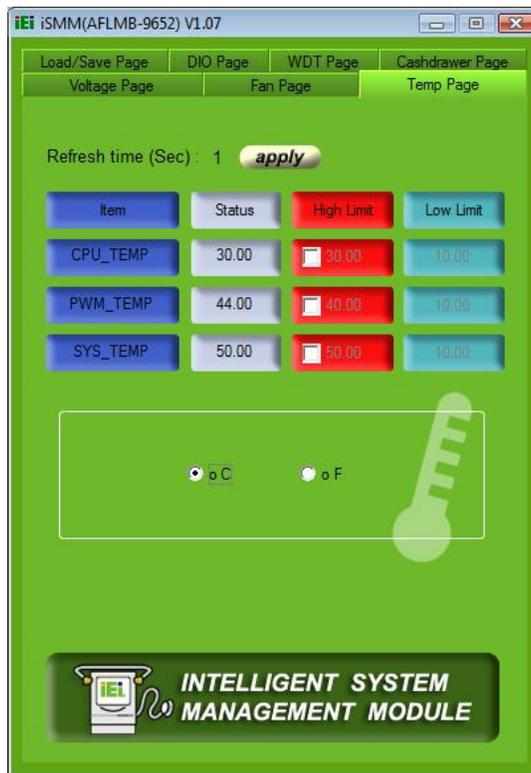

Figure 7-13: Temperature Page
The IEI iSMM application monitors the current CPU temperature and system temperature and shows the temperature on the Temperature Page (**Figure 7-13**). The following sections describe the Temperature Page in details.
The high limit value and low limit value of each temperature can be set by the user. When the temperature is greater than the high limit value or lower than the low limit value, the temperature value shows in red. For example, the SYSTEM1 temperature (48) shows in red in **Figure 7-13** since the current system temperature is greater than the high limit value (40). The temperature scale can be changed from Celsius scale (°C) to Fahrenheit scale (°F).